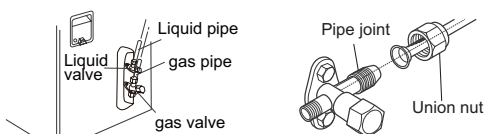

Fig.21
- (1) Remove the screw on the right handle of outdoor unit and then remove the handle.
- (2) Remove the screw cap of valve and aim the pipe joint at the bellmouth of pipe.(As show in Fig.21)